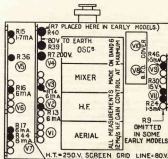

Fig. 9. Plan of Underside showing Test Points.
Fig. 9, above, shows the position of the various anode and cathode resistances and the values of current or voltage obtained with maximum H.F. gain. For convenience, these and other readings obtained are tabulated opposite (see Table 5). An Avometer or Avominor, or other simple test meter should be used. In the case of the 1st Oscillator (V4), measure the D.C. voltage drop across the Anode resistance, R7 on diagram. As indicated on Fig 9, the position of this resistance has been changed slightly since the earliest models were introduced. It is easily recognised by its size and colour (red, 3 watt type). On the output valve V9 measure the D.C. voltage drop across the cathode resistance, R30 on diagram. On all other valves the approximate anode feed is obtained by connecting the milliammeter in shunt with the anode decoupling resistance. Care should be taken after clipping the positive lead of the meter to H.T., + not to let the negative lead touch the chassis or a point of low D.C. potential, and for this reason the negative lead should have a "probe" connection. It is preferable to use a meter which is fitted with a fuse or automatic cut-out.
**Voltage and Current Check.** (See Fig. 9, page 14.)
Third: If a test meter is available, do not spend too much time on preliminaries, but carry out voltage and current checks (see Fig. 9 and Table 5) and make use of Table 6 (page 17) and the circuit diagram to test circuits for resistance and continuity.